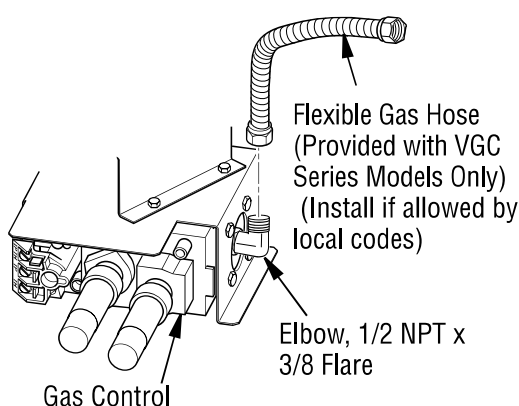

Figure 11 - Attaching Flexible Gas Hose to Appliance Gas Regulator
1. Apply pipe joint sealant lightly to male threads of the 1/2 NPT side of gas fitting elbow (provided) and connect to inlet side of gas control. Remove gas fitting from flexible gas hose (provided) before connecting to elbow (see *Figure 11*).
4. Disconnect gas line from appliance base as shown in **Figure 11, Page 13**.